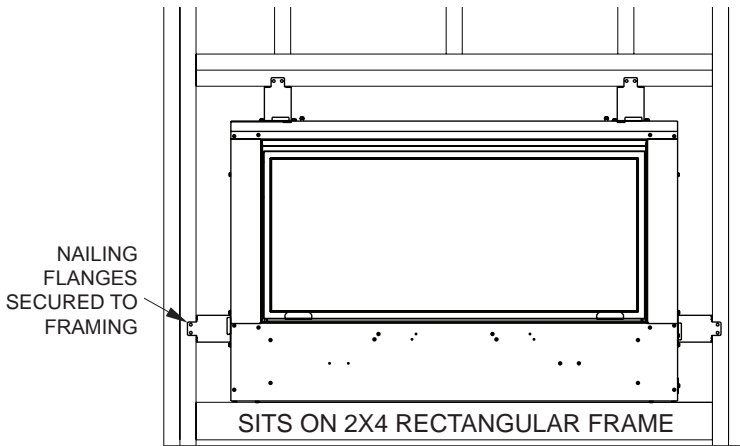

Figure 27
5. Secure fireplace to framing with nailing flanges. See **Figure 27**.